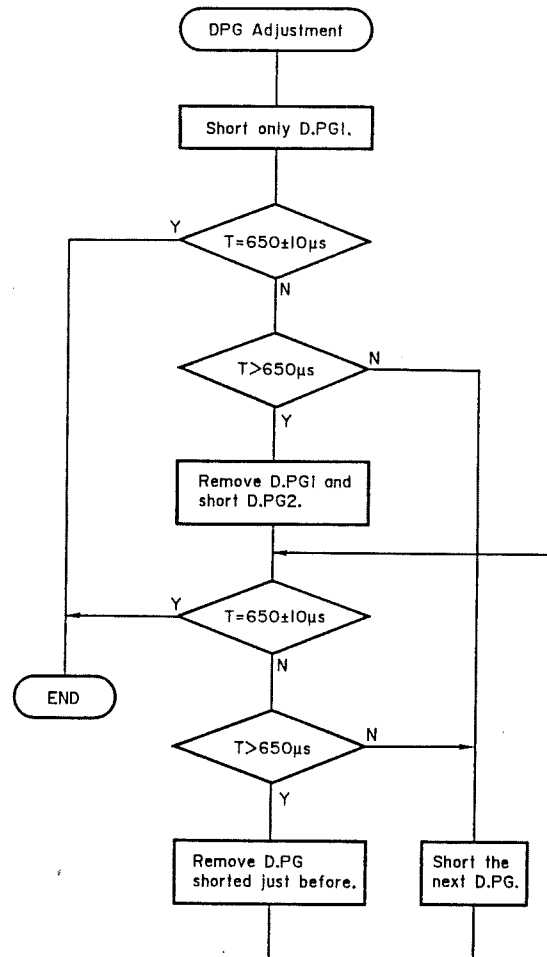
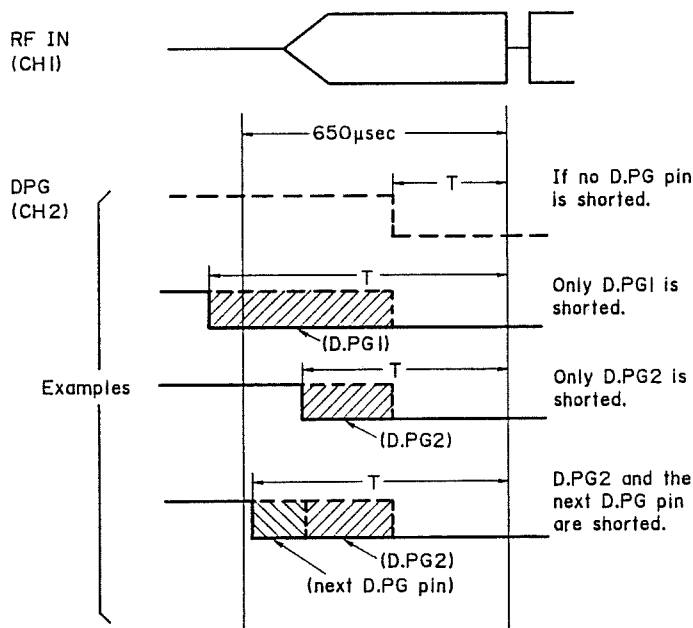

Fig. 5.5 DPG Adjustment Flow Chart
Fig. 5.6 Change in "T" according to Shorting of D.PG Pin (Example)
Set jumper pins to TE.CN-10 referring to the flow chart shown in Fig. 5.5. Fig. 5.6 shows the relationship between D.PG pin shorting and change in "T".
1. Following the flow chart in Fig. 5.5, remove the jumper pin of D.PG1 and then insert a jumper pin into D.PG2.